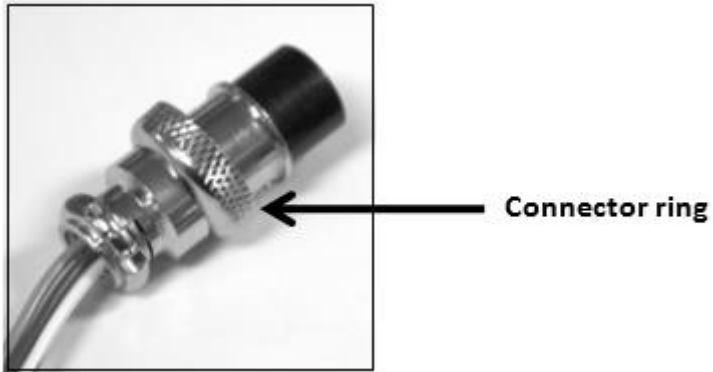

Figure 6 - Connector Ring
- (e) Secure the remote connector plug to the terminal socket by locking the connector ring (Figure 6).